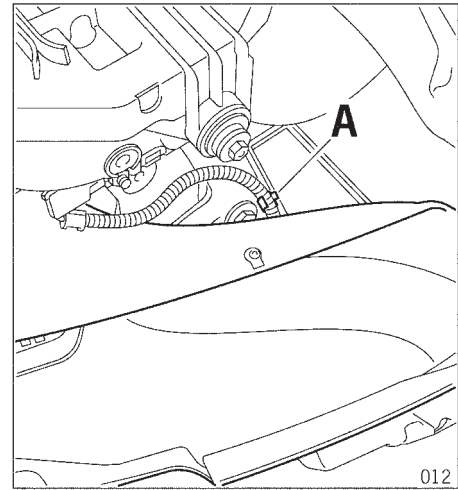

Figure 12
- 10.10.1 Clip retaining clip, Figure 12, Item A for airbag sensor line.